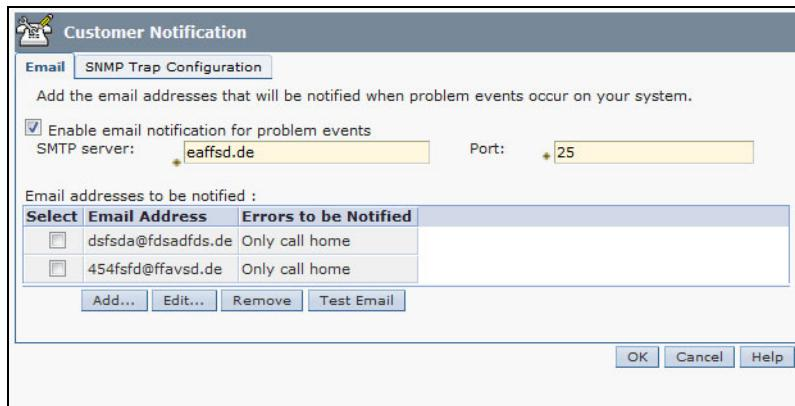

Figure 6-14 Customer Notification window
3. From the next window (Figure 6-14 on page 438), you can do the following tasks: